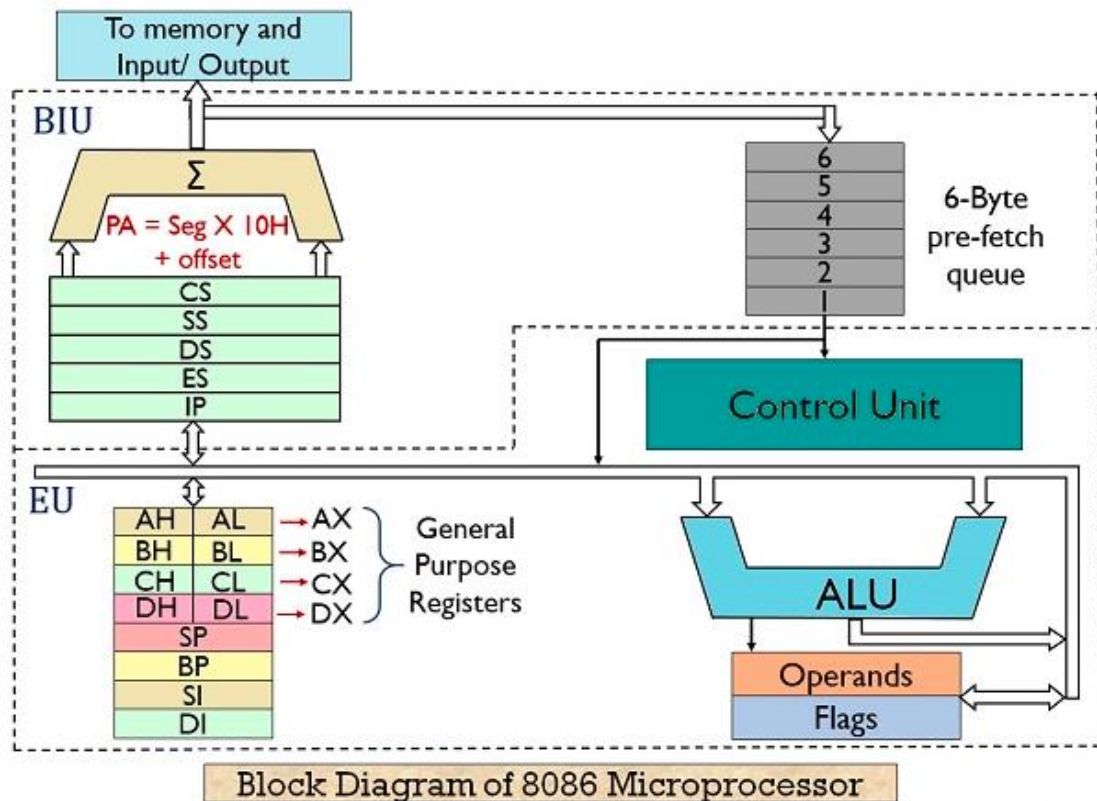

figure. 1 Internal Archtevture of 8086 Microprocessor
- As shown in the below figure. 1, the 8086 CPU is divided into two independent functional parts